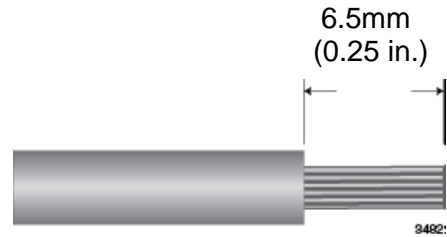

Figure 42. Stripping a Power Cable Wire
1. Strip 6.5mm (0.25 in.) of insulation from the ends of the stranded power wires with a wire insulator stripper. Refer to Figure 42 on page 89.